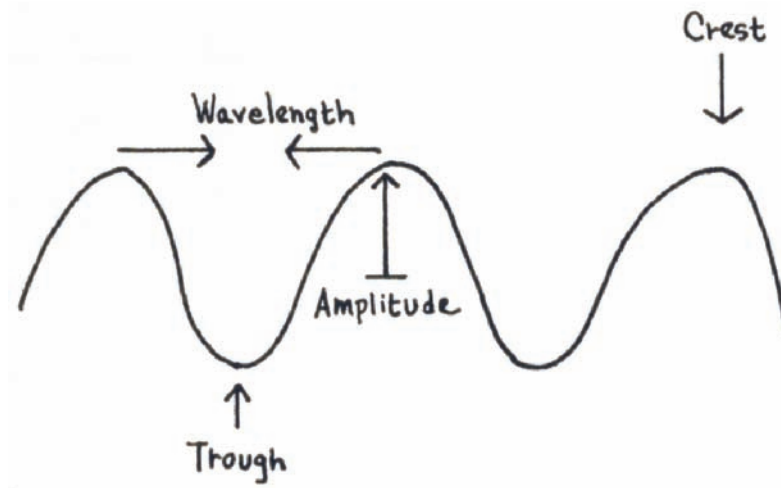

Figure 1.1. Wave Properties.
All light from the sun comes to us in the form of waves that transfer, or radiate, energy. Waves from the sun are disturbances that carry energy through space. All these waves travel at the same speed through a vacuum (the speed of light), but they differ in wavelength (the distance from crest to crest) and frequency (the number of waves that pass a point in a certain period of time). Some waves from the sun are not visible to the human eye. Together, these visible and invisible waves are called *electromagnetic radiation*. The three characteristics of waves discussed here are wavelength and frequency (defined above) and amplitude, half the distance from the crest of a wave to its trough. (See Figure 1.1.)
1. Make a diagram of a wave and label the crest, trough, wavelength, and amplitude (see Figure 1.1). This diagram can be included on a separate space on the poster used to draw Figure 1.2 in step 2.